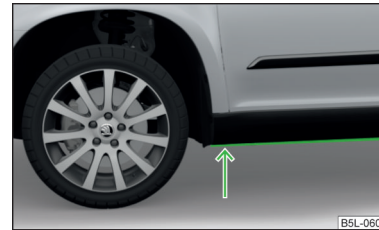

Fig. 130
- Therefore determine the depth of the water before driving through bodies of water. The water level must not go above the web of the lower beam » Fig. 130.